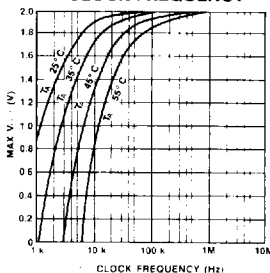

Fig. 4
17. Devices can be operated beyond 20 MHz without damage. The minimum clock rate can be lower than 10 kHz as shown in Figure 4.